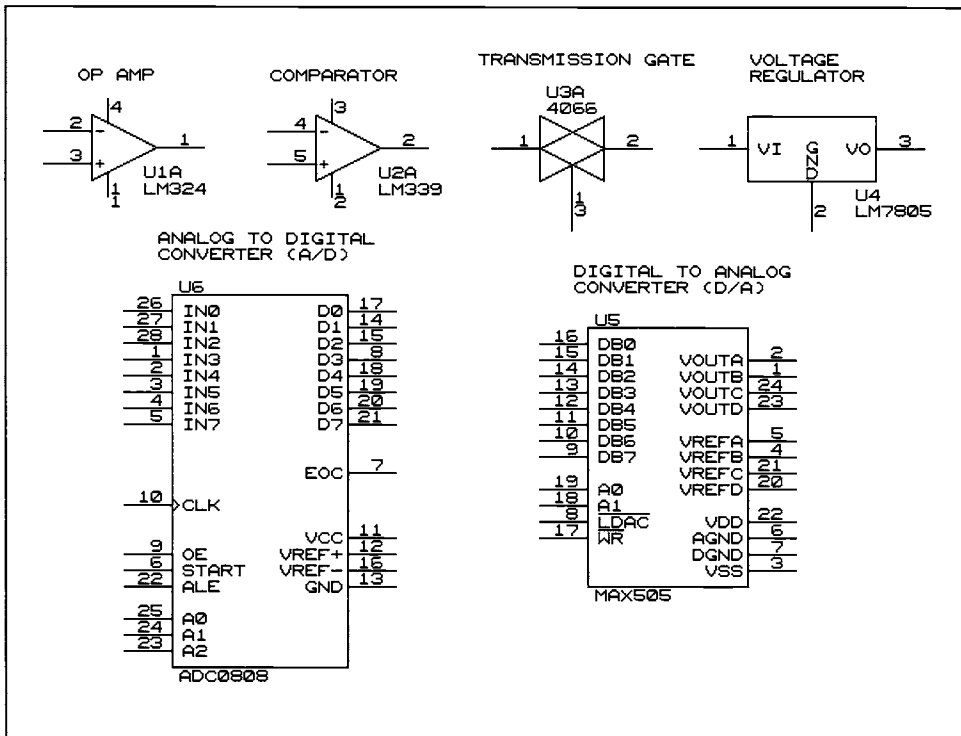

Figure 1-8 Analog Integrated Circuit Symbols
The term analog or linear refers to circuitry with signals that can vary over a range of voltages. Analog integrated circuits, such as the examples shown in Figure 1-8, require certain unique considerations when drawn on a schematic. OrCAD comes with several analog part libraries, so a very wide range of parts is available. A triangular symbol has been in use for many years to indicate operational amplifiers (op amps) and comparators. All op amps and comparators use the same symbol, but the pinouts vary. Many op amp and comparator integrated circuits contain multiple devices. OrCAD automatically handles multiple device parts and allows the user to determine which device is being placed (drawn) onto the schematic. OrCAD uses the convention of numbering the individual devices with an alphabetic reference designator suffix starting with the letter A. For example, if a LM324 quad op amp is assigned reference designator U1, OrCAD would label the individual devices U1A, U1B, U1C, and U1D. Power and ground pins appear only on the first device, U1A in this case.
- Draw op amps and comparators with the triangle symbol pointing from left to right as shown in Figure 1-8. This assures compatibility with the requirement that signals should flow from left to right.